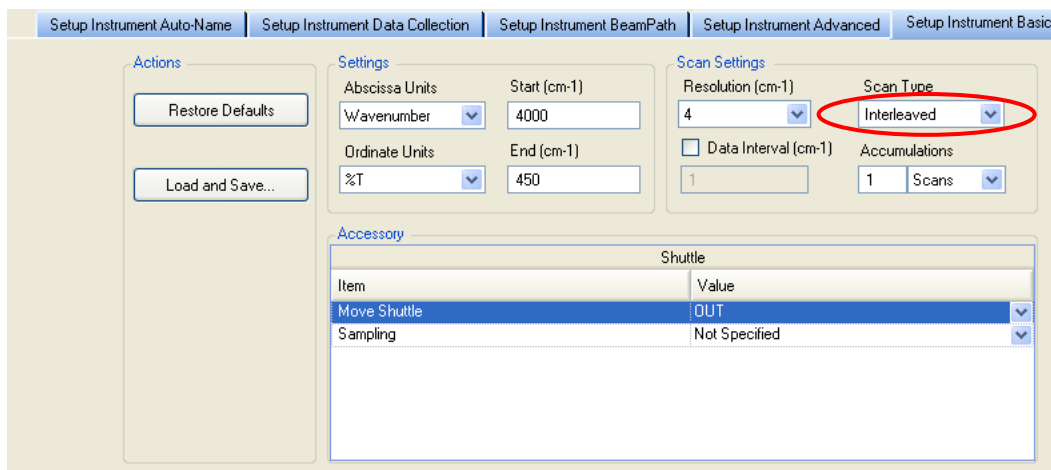

Figure 7 Selecting Interleaved as the Scan Type
- To use the interleaved mode, where the shuttle automatically collects a background before scanning the sample, set the **Scan Type** to **Interleaved** on the Setup Instrument Basic tab (Figure 7).